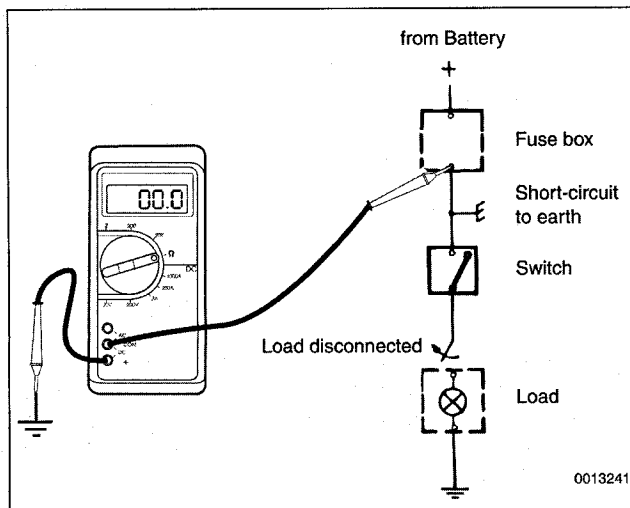

Fig. 4. Digital multimeter being used as an ohmmeter to find short circuit.
3. Using an ohmmeter, connect one test lead to load side of fuse terminal (terminal leading to circuit) and the other test lead to ground. See Fig. 4.